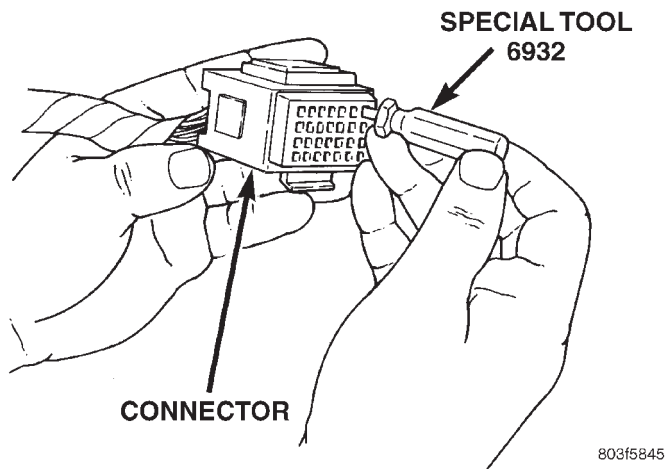

Fig. 20 Using Special Tool 6932
- (4) Using special tool 6932, push the terminal to remove it from the connector (Fig. 20).
- (5) Repair or replace the connector or terminal as necessary.
- (6) When re-assembling the connector, the locking wedge must be placed in the locked position to prevent terminal push out.